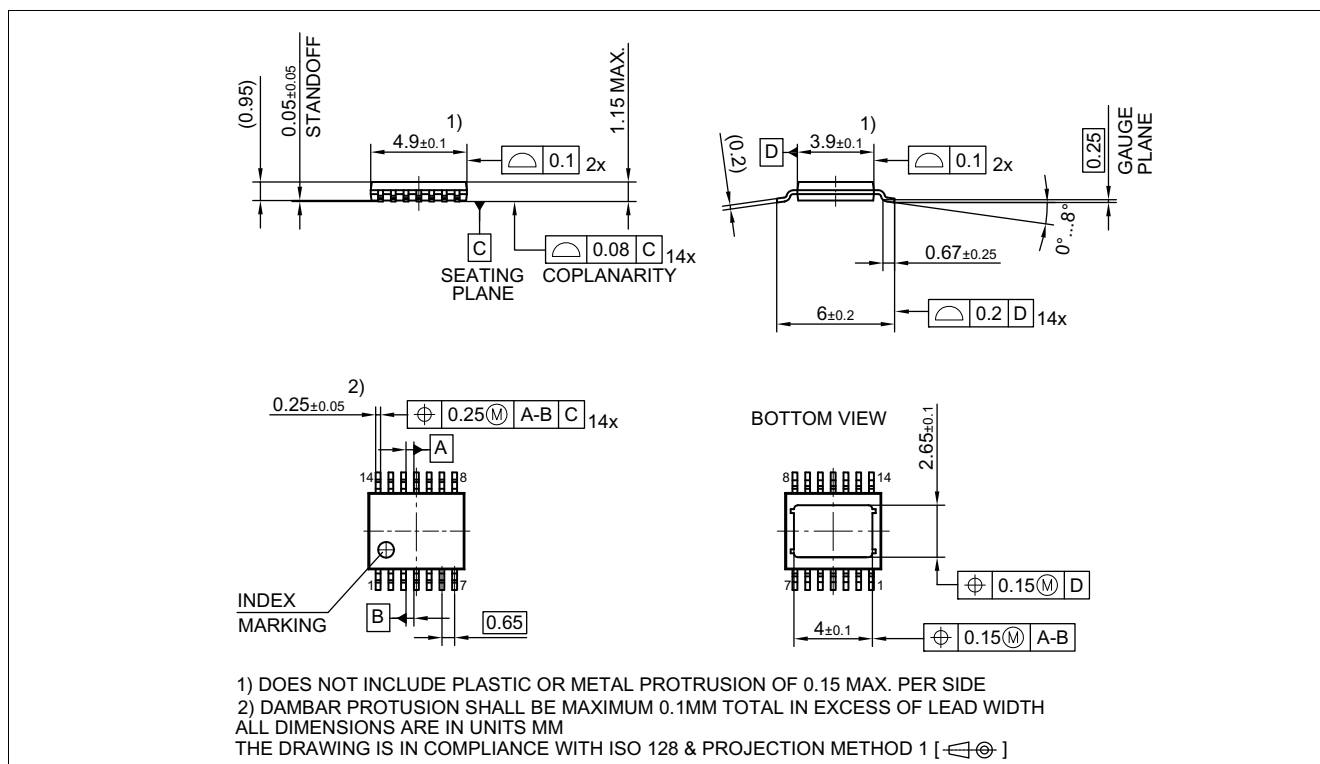
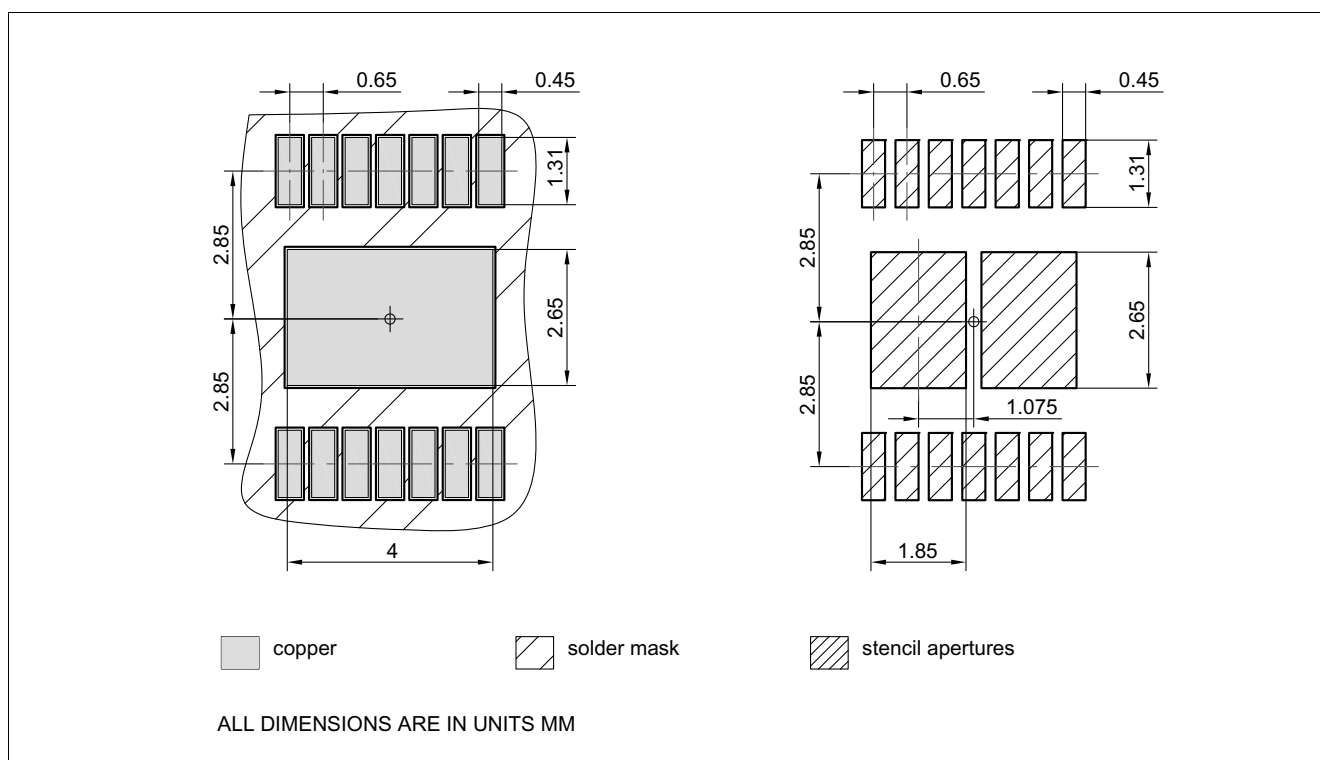

Figure 38 PG-TSDSO-14 (Thin (Slim) Dual Small Outline 14 pins) Package Outline
Figure 39 PG-TSDSO-14 (Thin (Slim) Dual Small Outline 14 pins) Package pads and stencil
1.02 , 2019-02-05	Figure 9, Figure 10 updated Page 1: updated (figure product) Table 22 updated (punctuation) Chapter 9.3, Chapter 9.3.1 updated (typo) Page 1: updated (Package PG-TSDSO-14-22 → Package PG-TSDSO-14) Figure 38 updated (PG-TSDSO-14-22 (Thin (Slim) Dual Small Outline 14 pins) Package Outline → PG-TSDSO-14 (Thin (Slim) Dual Small Outline 14 pins) Package Outline) Figure 39 updated (PG-TSDSO-14-22 (Thin (Slim) Dual Small Outline 14 pins) Package pads and stencil → PG-TSDSO-14 (Thin (Slim) Dual Small Outline 14 pins) Package pads and stencil) Table 1 updated (Parameter: Minimum Overvoltage protection ($T_J = 25\text{ °C}$) → Minimum Overvoltage protection ($T_J \geq 25\text{ °C}$)) Table 1 updated (corrected typo in table Product Summary: $I_{VS(OFF)}$: 1 → 0.4 μA) Table 1 updated (Symbol: $I_{VS(OFF)} \rightarrow I_{VS(OFF)_85}$) P_6.5.22.1 updated (Symbol: $I_{VS(OFF)} \rightarrow I_{VS(OFF)_85}$) P_6.5.22.2 updated (Symbol: $I_{VS(OFF)} \rightarrow I_{VS(OFF)_150}$)